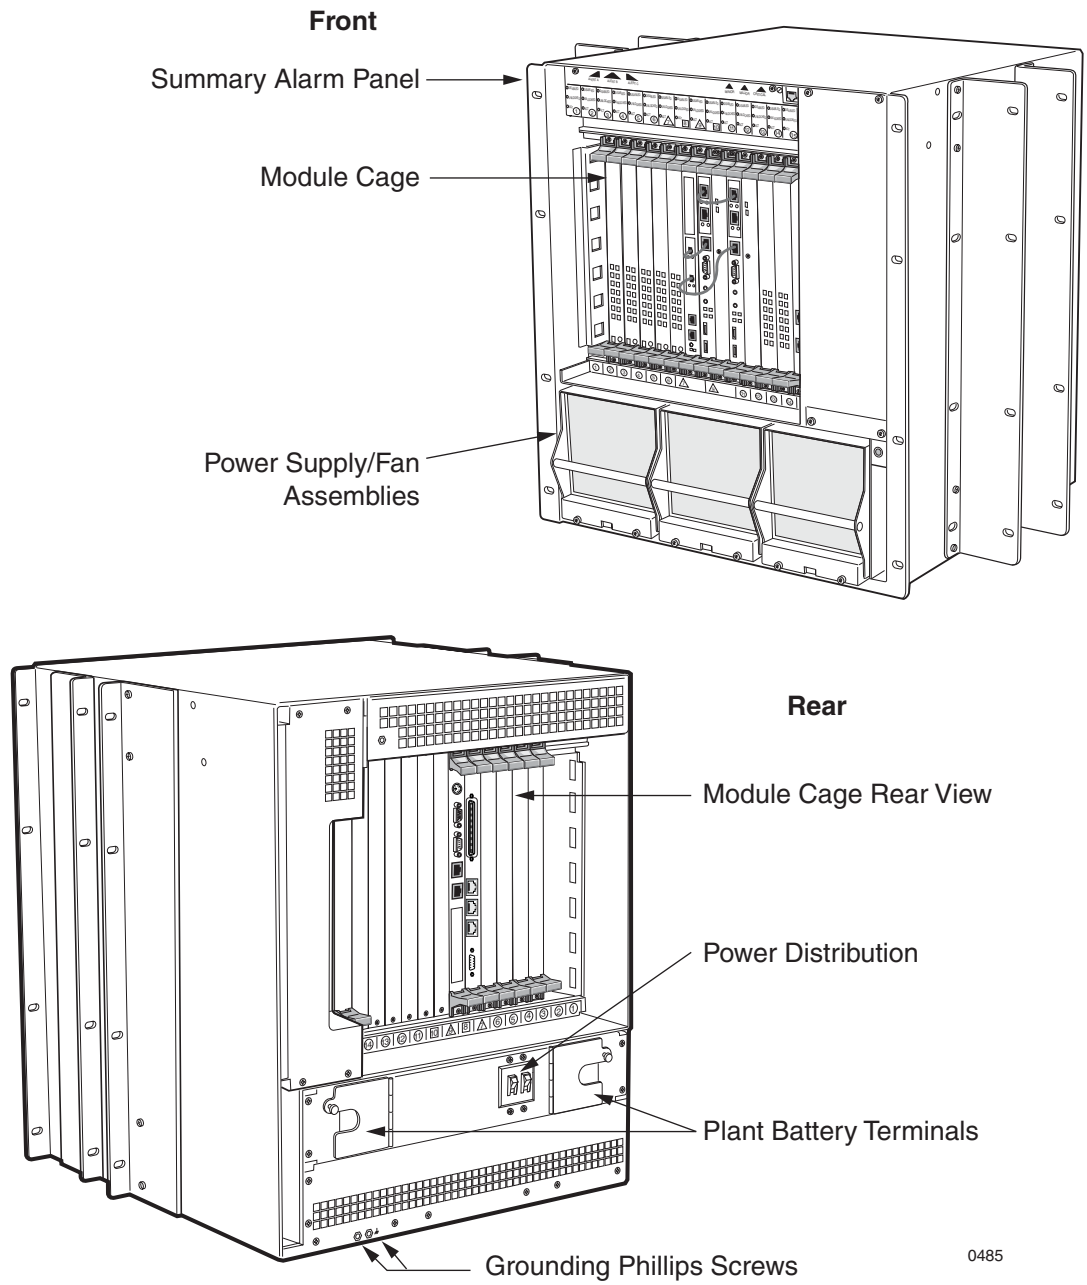

Figure 2-4. CPX-1000 Front and Rear Views
The CPX hardware consists of these items (Figure 2-4):
- CPX shelf (Figure 2-4)